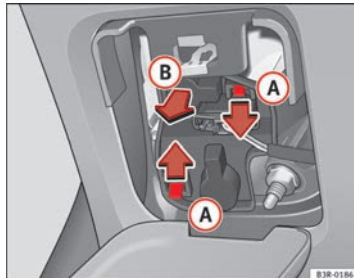

Fig. 219 Remove the bulb holder
- Press on the tabs (A) ⇒ Fig. 219 in the direction of the arrows and remove the bulb holder by pulling in the direction of the arrow (B).